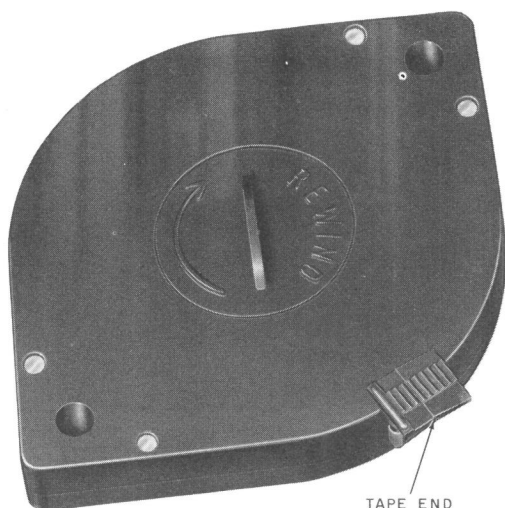
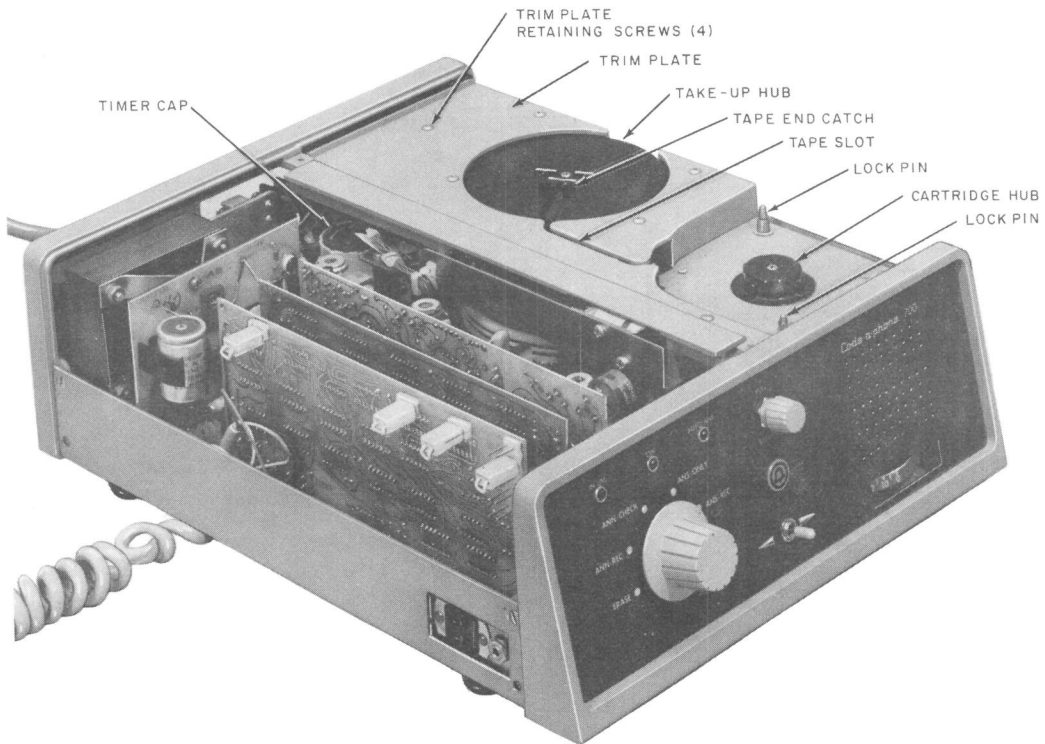
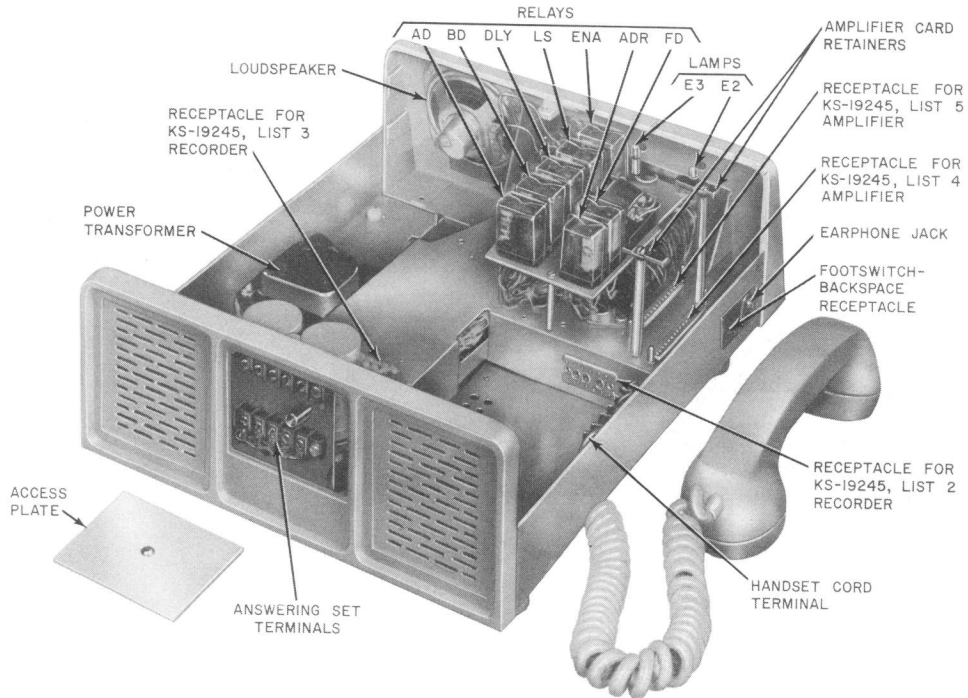

Fig. 10—KS-19245, List 6 Cartridge
Fig. 25—KS-19245, List 1 (MD) Telephone Answering Set—Cover and Components Removed
Fig. 26—KS-19245, List 13, (MD) 24 (MD), or 26 Telephone Answering Set—Cover Removed
(e) **The KS-19245, List 6 Cartridge** (Fig. 10) provides a 1/4-inch wide plastic base magnetic recording tape with a capacity for 2 hours of incoming message recording time.
- (1) Set function selector to OFF.
- (2) Place cartridge (Fig. 10) over cartridge lock pins and hub (Fig. 26) and press down into place.
- (3) Slide tape end (Fig. 10) through tape slot (Fig. 26) and into slot of take-up reel and lock into place. Make certain, by listening for a snap, that both the left and right sides of the tape end are locked in place.
4.14 Remove cartridge as follows (Fig. 26).
- (2) **List 1 telephone answering set only:**
- (a) Loosen amplifier board retainers (2) (Fig. 25)
- (3) **Lists 13 (MD), 24 (MD), and 26 telephone answering sets only:**
- (a) Remove the four trimplate retaining screws (Fig. 26)